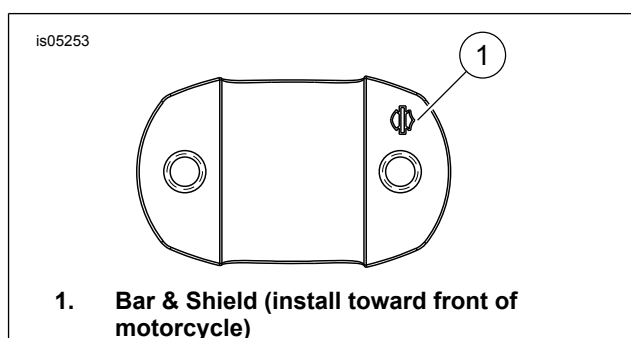

Figure 1. Bar & Shield on Riser and Cap
3. Loosely install riser caps (1) onto the handlebars and risers with the Bar & Shield toward the front of the motorcycle (Figure 1, Item 1). Install four socket head screws (3) with four washers (6).